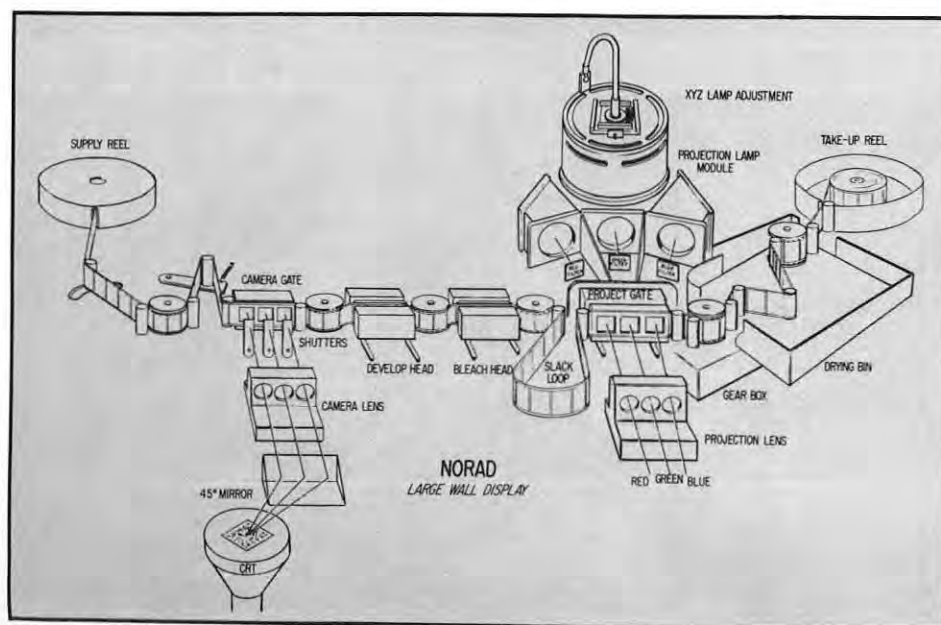

FIGURE 4: Schematic Diagram of Camera Processor Projector Unit
In the operating mode, the BDU receives color-coded display information from the computer; this information has been identified by appropriately coded words and is then stored in the BDU memory. Upon receipt of the computer command to go into a display cycle, the BDU extracts this stored information from its memory, converts it from digital to analogue format, and displays it on a 5-inch cathode ray tube (CRT). Since the ultimate projected display is to be in seven colors, the full data load stored in the BDU is displayed on the CRT in a three-sequence color cycle. This means that three distinctive patterns of information are sequentially presented on the CRT and photographed on the three-frame film chip in about 700 milliseconds. Refer to Figure 4 for a representation of the arrangement of the components of the CPPU and of the film path through the equipment.
For an understanding of how the Camera Processor Projector Unit photographs and processes the black and white film, it will be helpful to refer again to Figure 4. The function of this unit is to photograph the CRT image on 35-millimeter film, chemically develop the film, reverse the background, and then to project the three images perfectly on the 12-foot by 16-foot rear projection screen. A delay of only 10 seconds will occur between the updating signal and the updating itself. While the new display is being photographed and processed, the old display is kept on the screen continuously until about 1 second before the new display is projected. During this 1-second interval, or "blink-time," a shutter interrupts the projected light path while the two films are being interchanged.
A second film transfer moves the same three frames into the bleach head, where they again remain for 4 to 6 seconds. While the new chip is being processed, the old display is kept in the projection gate and visible on the screen. The slack loop has developed to about the size shown in Figure 4.
a. First a light shutter, not shown in Figure 4, interrupts the light path and blanks out the display for approximately 1 second.
Although not shown in Figure 4, there is an electronic film splicing module, which allows the operator to make a quick splice of the end of one film spool to the beginning of a new spool. During continuous operation the splicer eliminates the need to shut down the machine, drain all the heads, rethread the new film through the gates and heads, and then reestablish the flow of the chemicals. A new roll of film is spliced onto the end of the old roll while the previous projection is still being viewed on the screen. Before the next film can be processed, it is necessary to update the film rapidly three times in order to clear the exposed (fogged) film. This updating takes only 30 seconds; the total operation can be accomplished in 5 minutes; then the machine is again ready for normal operation.